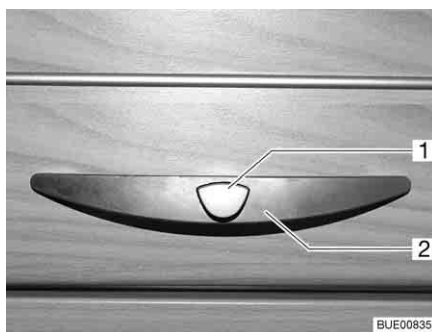

Fig. 38 Furniture flap with handle (example)
- Press the release knob (Fig. 38,1) on the handle (Fig. 38,2) and hold it down.